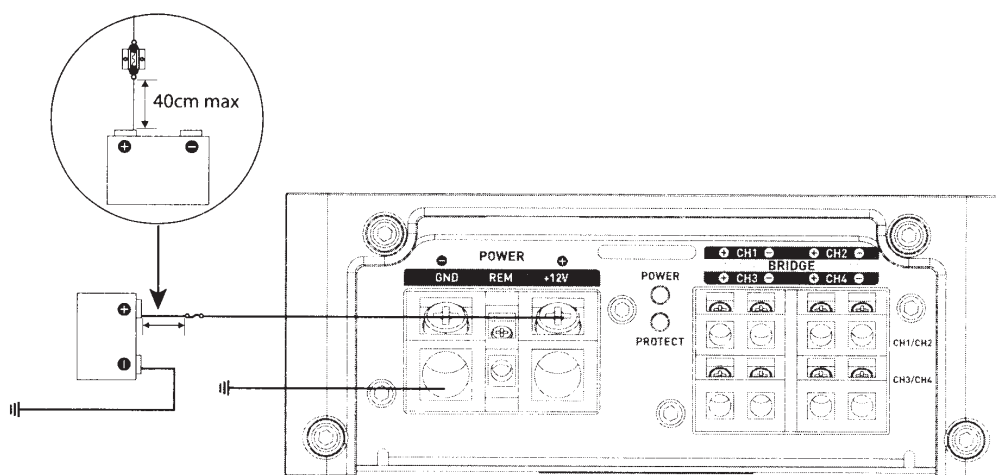

fig.7
- 9 - Always use fuses to protect the battery and the electrical circuit from any potential damage. Install a fuse-holder and an appropriate fuse in the 12V+ power supply cable less than 40cm from the battery terminal. Ideally, this distance should be as short as possible (**Fig. 7**).
Solder and insulate (using heat shrink sleeving) the positive (+) power cable to the FPX amplifier connector supplied (Fig. 7).